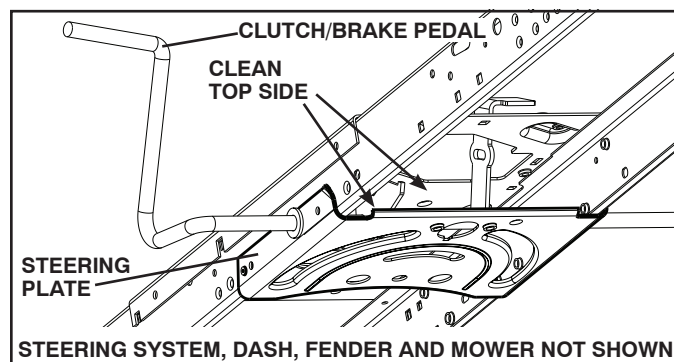

Fig. 19
- Clean debris from steering plate. Debris can restrict clutch/brake pedal shaft movement, causing belt slip and loss of drive. See Fig. 19.